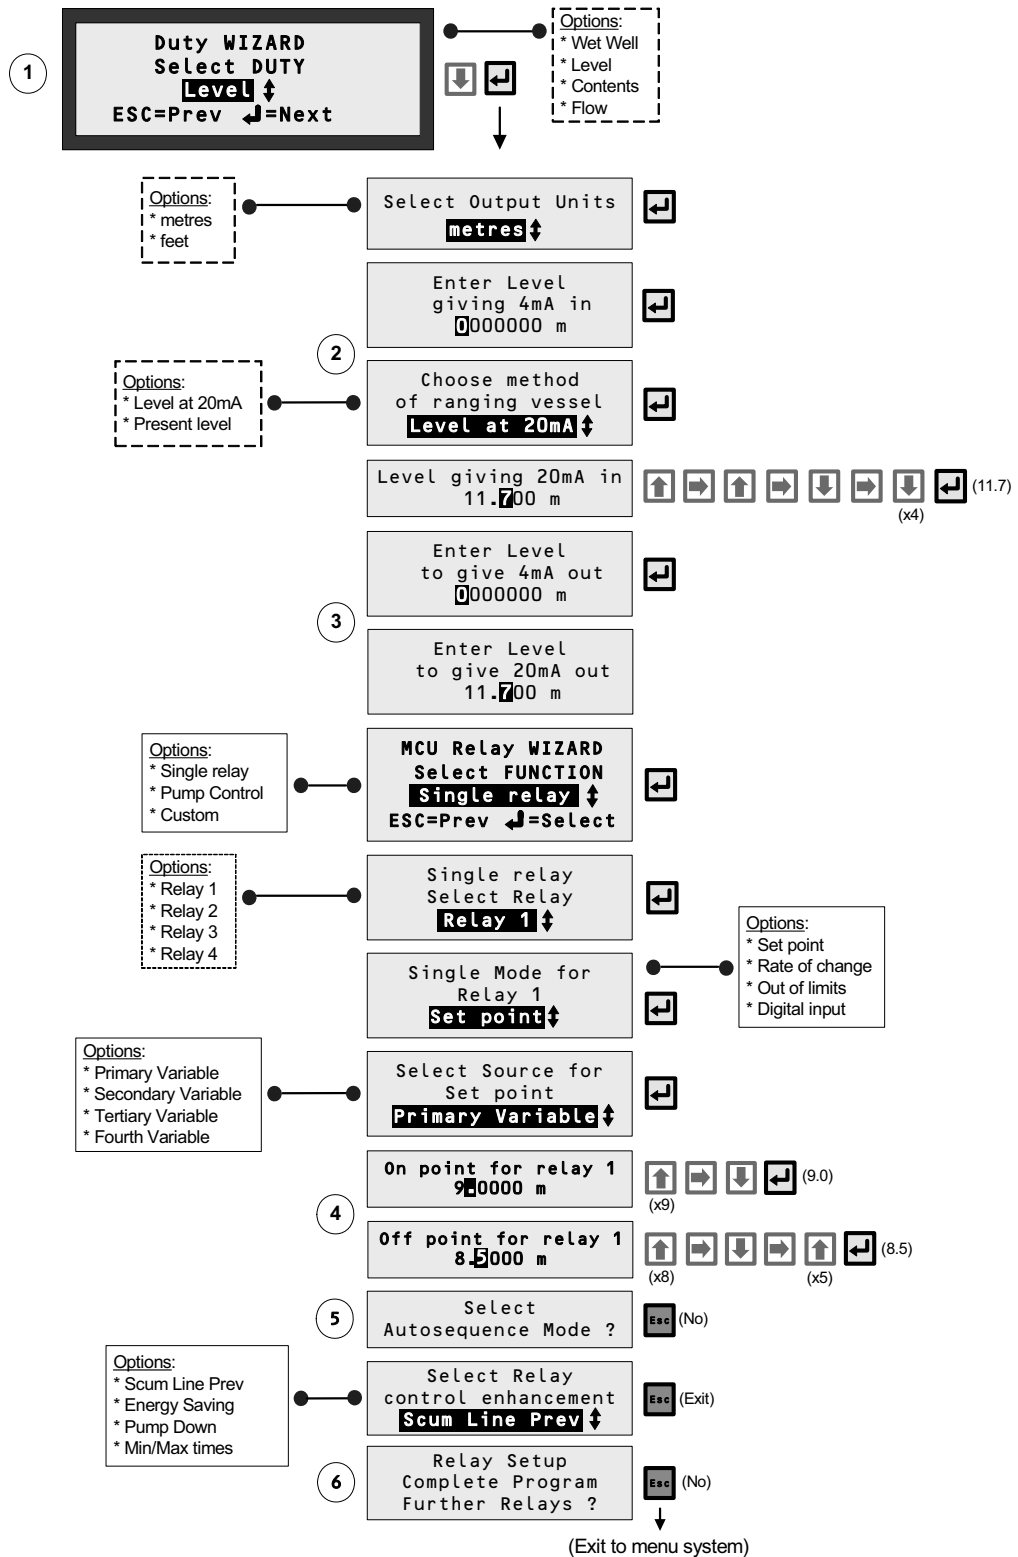

Figure 42: Application/Duty: Level Measurement using a 4-20mA Level Transmitter
4. Work through the “Duty” Wizard prompts (Figure 42 or Figure 43) until completion; this occurs when the menu system re-appears. Keypad hints, for the illustrated Wizard sequence on the next page, are provided alongside the prompts. If applicable, adapt the example to suit your application.
- ① Select “Level” from the multiple-choice list.
- ② Set-up the 4-20mA input span with a level range (e.g. 0 to 11.7 metres)
- ③ Set-up the 4-20mA output span with a level range (e.g. 0 to 11.7 metres)
- ④ Set-up relay RL1 to be energised whenever the measured level exceeds a pre-set level and de-energises below another pre-set level, as defined at these prompts.
- ⑤ Optional overrides to prevent individual relays from being energised for too little time or too much time.
- ⑥ Option to set-up further relays.